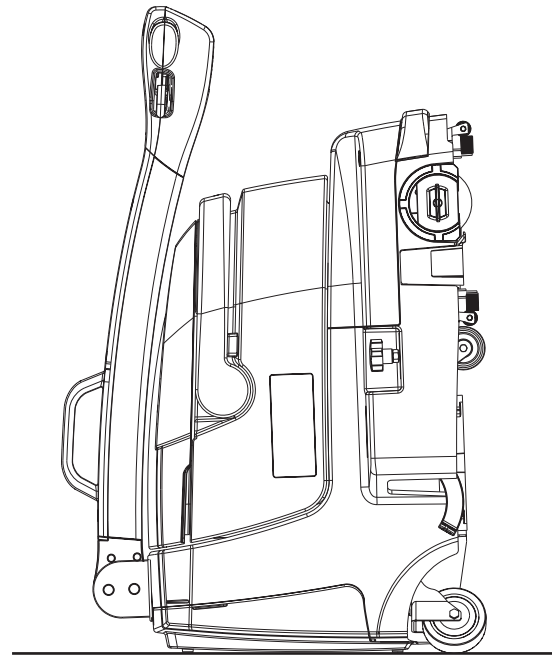

Figure 7
1. Stop the machine by switching it off, then lifting the brush and squeegees with the park pedal (10).
2. Empty the tanks container (13).
5. Park the machine; for lowering the handlebar (1) press the lever (8).
6. Machine must be stored in parking mode; pedal (10).
7. Machine can be stored on the back in narrow places, see figure 7.